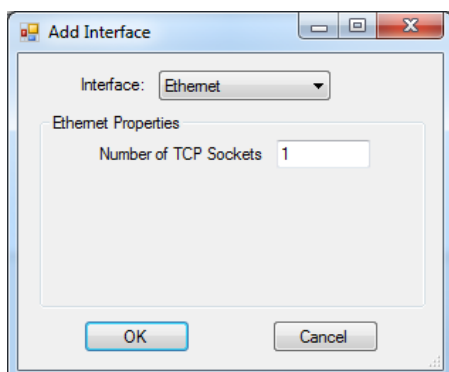

Figure 2-49 - Add Interface
6. Click **ADD**. From the drop-down menu, select the CAN port to use (must have been installed prior to this step). Refer to Figure 2-49. All the configuration parameters for the J1939 / NMEA 2000 communications must be configured here. **Refer to the P-Series EZ LADDER Toolkit Manual for more in-depth information on configuring and using SAE J1939 and NMEA 2000.**